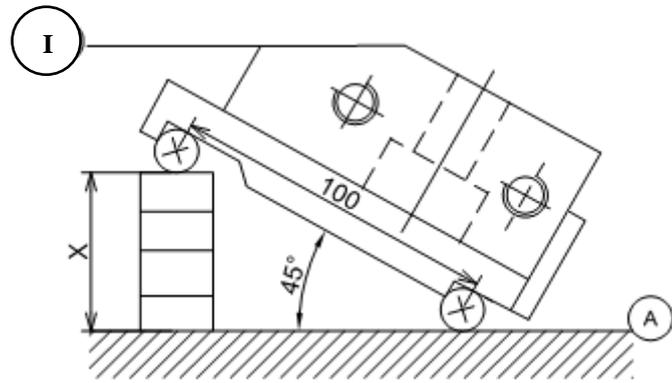

Figure 4: Sine bar
- Let's consider the sine bar in figure 4 below to be used to control of flatness the surface F1. Calculate the height X of wedges necessary. (2.5 marks)